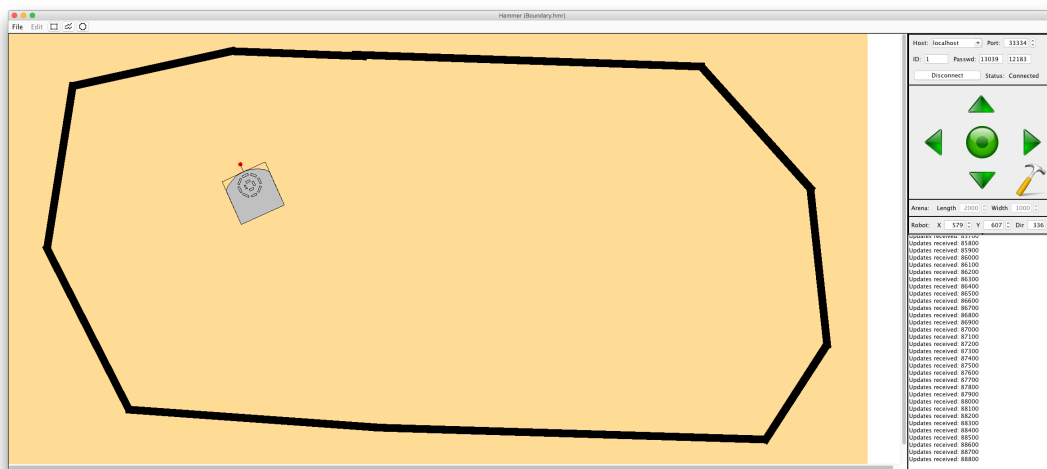

Figure 17: A ring of black tape with Thymio in the middle.
2. Create a large black tape ring in the arena, similar to the one in Figure 17. To place some black tape on the arena, click on the button beside the *File* menu that looks like two wavy lines. You can then draw a path on the arena by placing vertices on the arena surface, which will be connected by black line segments. Double-click to place the last vertex. The width of these black lines is comparable to the width of electrical tape used in the last lab.